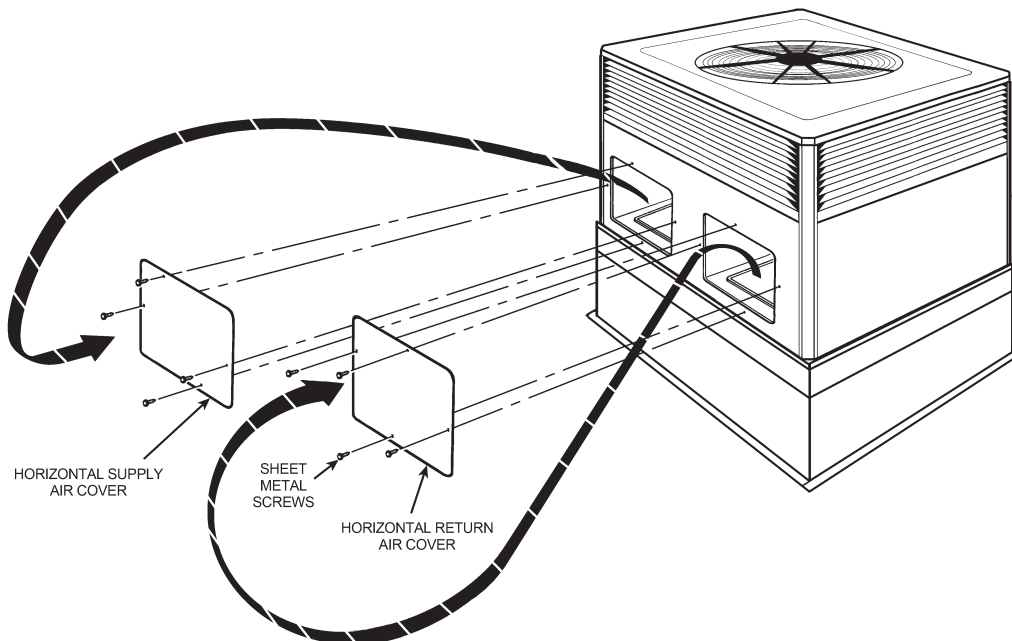

Figure 8. Converting Horizontal to Down Airflow
1. Remove the three (3) sheet metal screws securing the supply aircover and the four (4) sheet metal screws securing the return air cover from the base of the unit. Remove the covers from the base. See Figure 8, page 12.